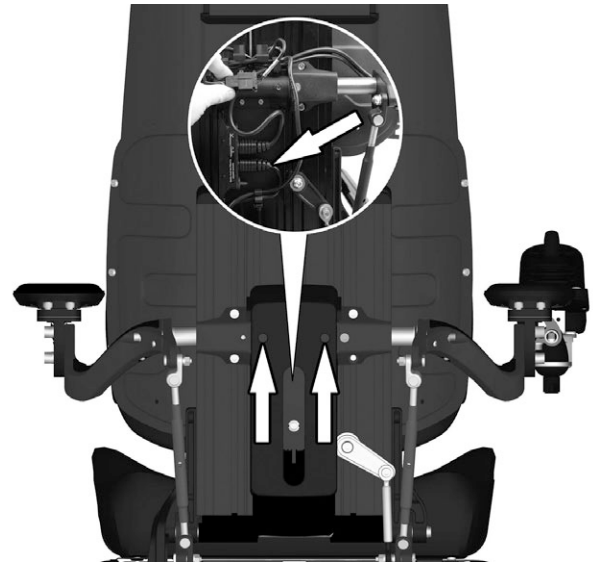

Figure 182. Reconnect the Rnet cable from the contact block at back of the back rest.
3. Connect the Rnet cable to the contact block at the back of the back rest. See fig. 182. Mount the cable to its cable brackets.
6. Remount the cover on the back of the back rest. It is attached with two screws. See fig. 182.